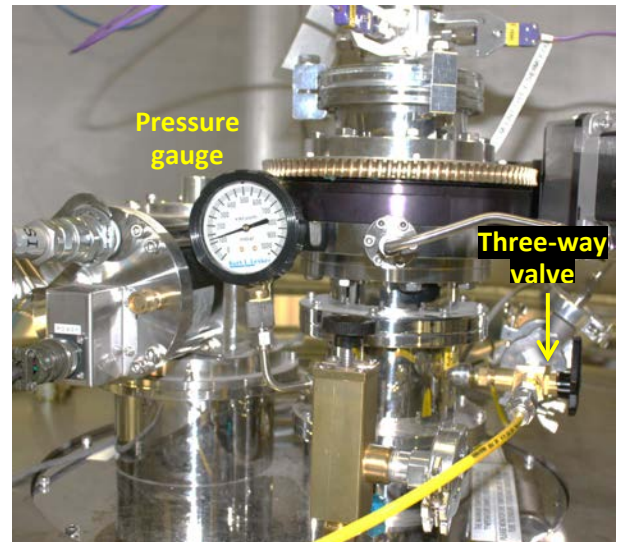

Figure 1. Pressure gauge and three-way valve
- a. Disable alarm by clicking the “Alarm Enabled” button in the Lakeshore box on the dashboard (Fig 1).
- p. Re-enable alarm by clicking the “Alarm Disabled” button in the Lakeshore box on the dashboard (Fig 1).